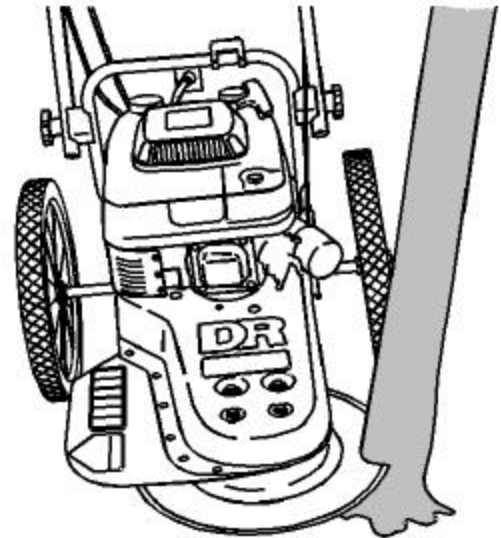

Figure 2
3. Engage the trimmer head and EASE the blade into the brush or saplings you wish to cut. Use the side of the blade to cut instead of heading straight into the trunk (Figure 2). DO NOT ram the blade into what you are cutting. Ramming could damage the blade and cause injury. When cutting small trees that cannot be cut in one bite, pull the blade back and cut again from the opposite side. (See paragraph Felling of Trees)